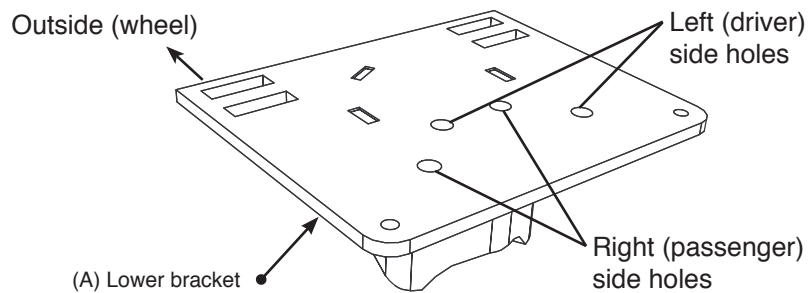

fig. 5
If you have a fifth wheel hitch that does not have a plate running alongside the full length of the frame (these will have an “L” bracket forward and behind the axle leaving the middle frame open) use the 1/2-13 x 2.00” Hex Cap Screw (HH) with a flat washer (R) through the slot in the side of the frame, then through another flat washer (R) and finally through the upper brace. Cap with a flat washer (R) and a 1/2-13 nyloc nut (X) (fig. 5). Leave loose at this time.
*The radiused (rounded) edge of the roll plate (G) will be towards the bellows so that the bellows is seated inside both roll plates.*
2. Install the swivel elbow fitting (Z) into the top of the bellows finger tight. Tighten the swivel fitting one and a half turns.
3. The lower bracket (A) has two sets of bellows mounting holes. Using the corresponding holes in the lower bracket designated (fig. 5), attach the bellows to the brackets using the 3/8" flat washers (W), lock washers (U), and 3/8"-24 x 7/8" hex head cap screws (N). Torque both mounting screws to 20 ft/lbs.